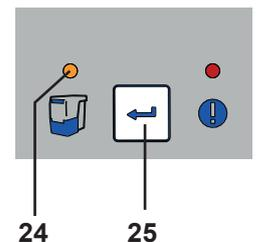

Fig. 11
- ⇒ Press the enter key (25) (the counter which determines the time period is re-set).
- ◆ The display dust drawer (24) light disappears.
**i** **If the dust drawer is not emptied, the display for the dust drawer will remain alight (24, Fig. 11). When the unit is switched off/on an acoustic signal will occur to remind that the dust drawer needs emptying.**